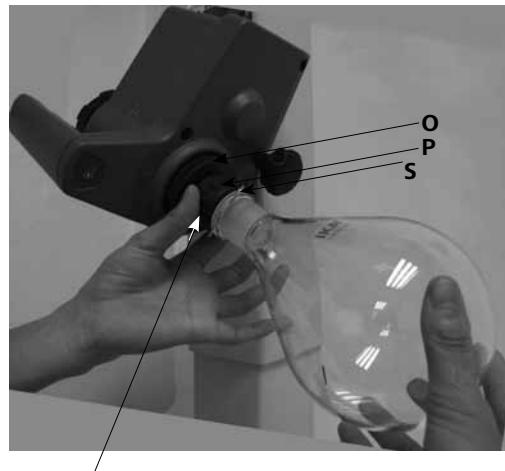

Fig.16
- Turn the plastic nut (**P**) with the clip (**S**) counterclockwise until the clip can be put on the flange. (Fig. 16)